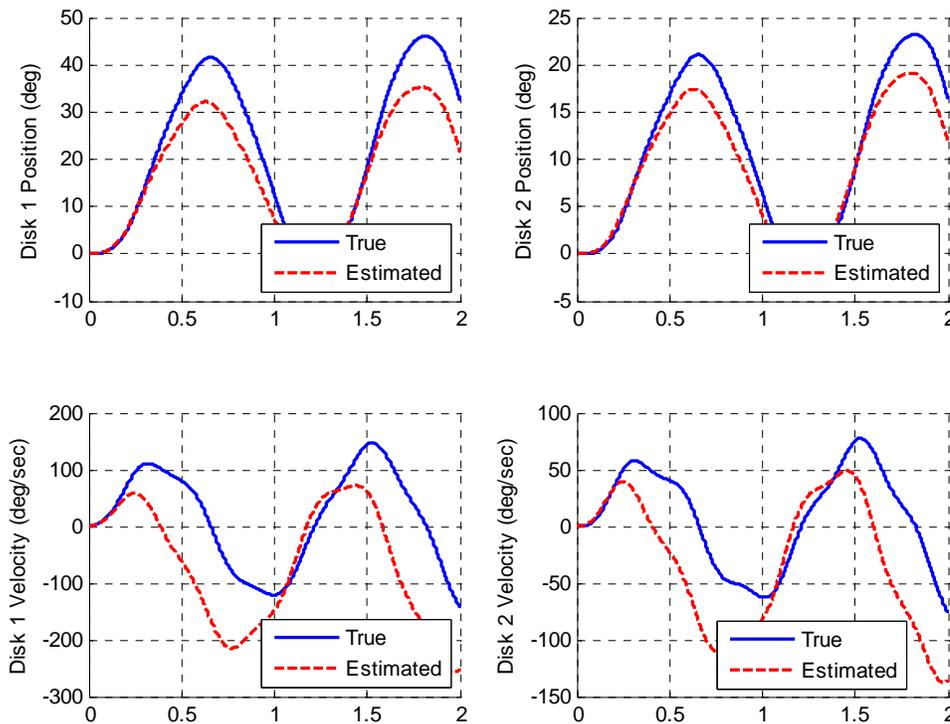

Figure 22. State feedback, full order observer, and integral control for the 2 dof system with a bad model (problem 6c).
c) Now we will try and observe what happens when there is a difference between our model and the real system. Modify the observer block in the model file, so the A matrix is called AA . Just before you run the model file, enter the command $AA = A*1.5$. You should get results like those in Figure 22.